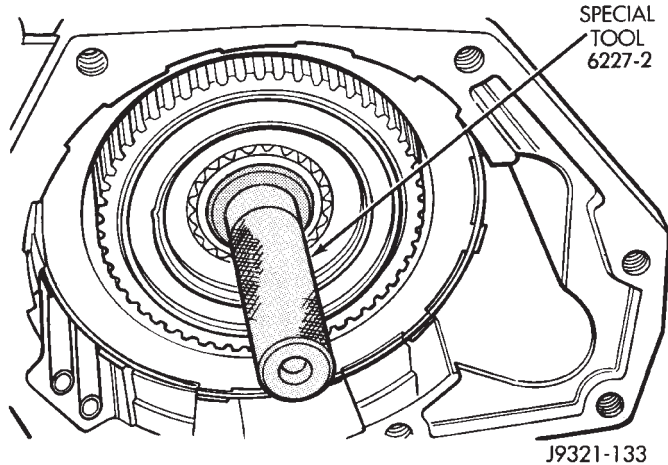

Fig. 9 Overdrive Spline Alignment Tool Installation
- (18) Carefully slide overdrive unit off intermediate shaft. Do not tilt overdrive unit during removal. Keep it as level as possible.
- (a) If overdrive unit does not require service, **immediately insert Alignment Tool 6227-2 in splines of planetary gear and overrunning clutch (Fig. 9). If misalignment occurs, overdrive unit may have to be disassembled in order to realign splines.**